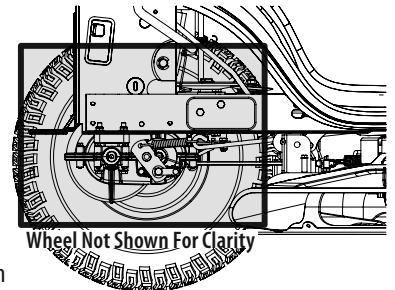

Figure 23
- Clean around and near the transmission, axle and the fan area. See Figure 23.